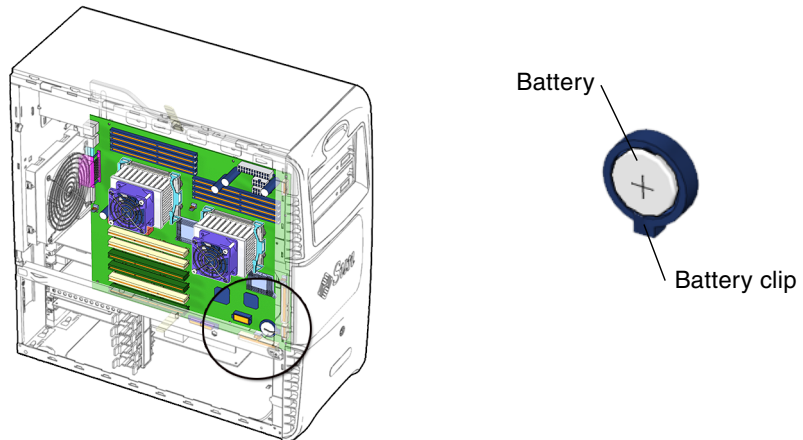

FIGURE 11-21 Battery Location and Identification
2. Locate the battery (FIGURE 11-21).
2. Identify the battery installation site (FIGURE 11-21).